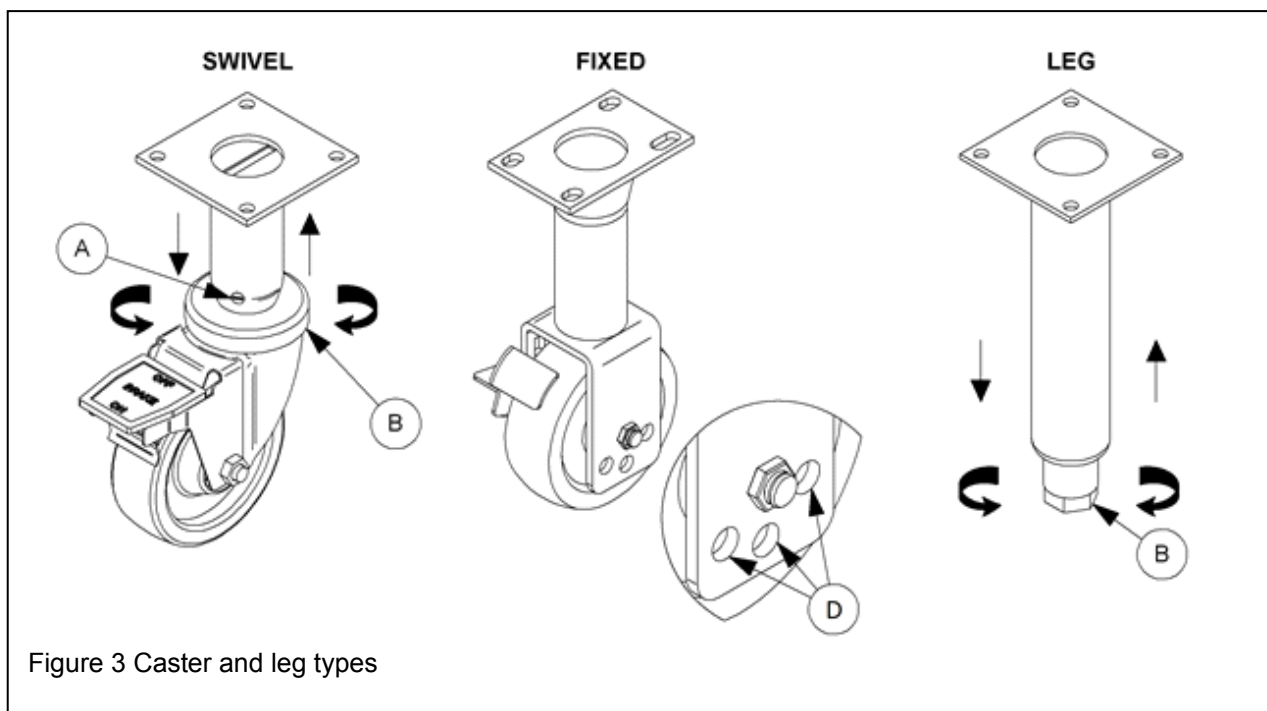

Figure 3 Caster and leg types
- c. Fixed casters- Adjust height by moving wheel and axle to alternate holes (D) in wheel bracket higher or lower as needed. Refer to “FIXED” type caster in Figure 3.